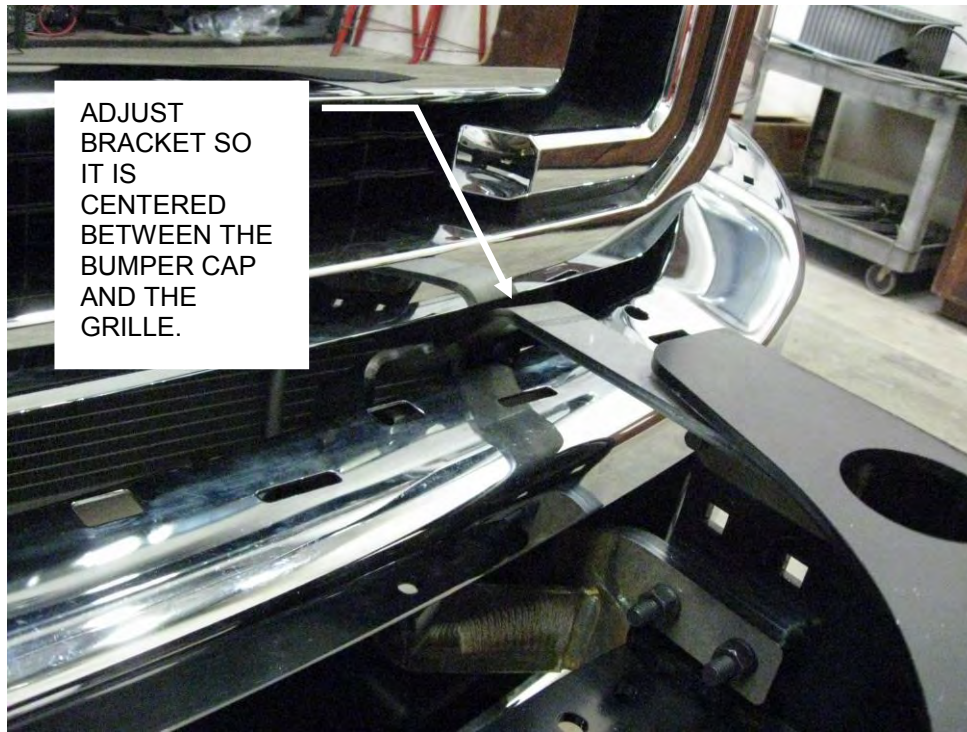

Figure 8: Driver's Side View. Upper Frame Brackets
7. **Large Frame carrier only.** Install the upper frame brackets. Use **Figure 8** to determine the location of the left and right upper frame brackets. Install the upper frame bracket to the main frame bracket using the 7/16" x 1-1/2" round head bolts (hex bolts and flat washers in place of round head bolts for stainless kits). Install a bolt through each of the 2 holes in the main frame bracket and through the upper frame bracket. Install a 7/16" washer; lock washer and nut onto each bolt. Leave all fasteners very loose. Install the round head bolts through the winch carrier and upper frame bracket. Install a 7/16" washer; lock washer and nut onto each of the 2 bolts. Repeat this for the opposite side of the winch carrier. Adjust bracket height for best fit between bumper and grille then tighten all bolts to specified torque values.